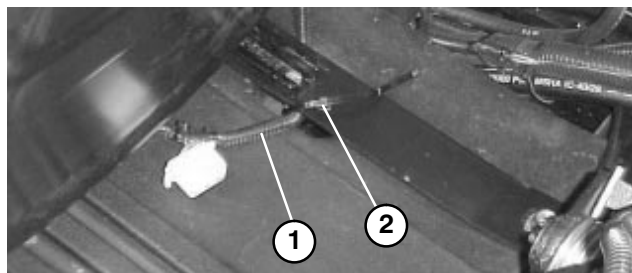

Figure 7
- On standard seat only, slide seat all the way forward, pull wire to the right so unused connector is positioned as shown in figure 7 and secure seat switch wire to rear most hole in seat strap with a cable tie (cable tie supplied with seat kit).